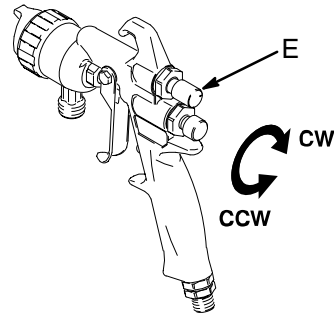

Fig. 8
4. Open the fan pattern adjusting valve (E) by turning it fully counterclockwise, then turn it in 1 to 2 turns. See Fig. 8.